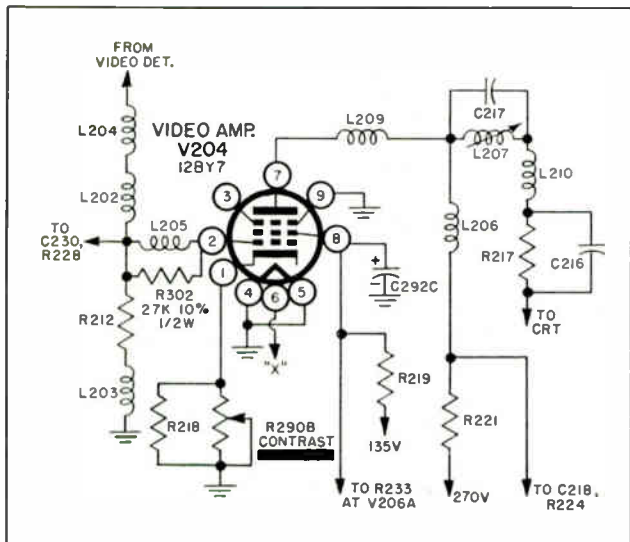

Figure C-1
2. Disconnect pin 2 of V204, the video amplifier, from the junction of L202-C230-R212-R228, and connect L205 between these two points. Connect a 27K resistor (R302) in parallel with L205. (See figure C-1.)